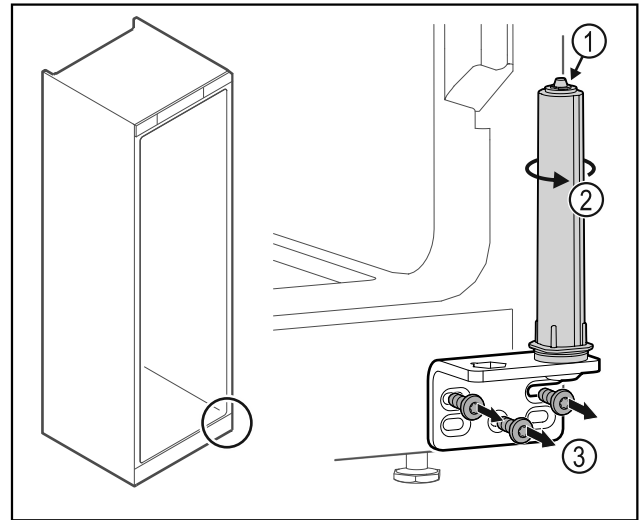

Fig. 41
- ▶ Do not disassemble the door closing system Fig. 41 (1).
- ▶ Turn the closing system Fig. 41 (2) until it clicks.
- ▶ Unscrew the hinge Fig. 41 (3).